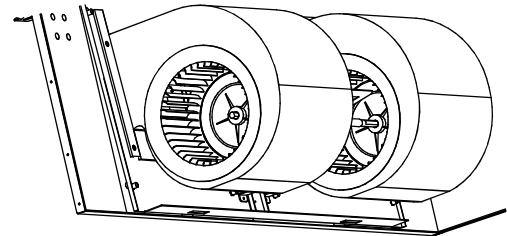

Fig.9-8
- 2) Hold the bottom of the assembly, and then push it up along the guide rails. (Fig.9-8)